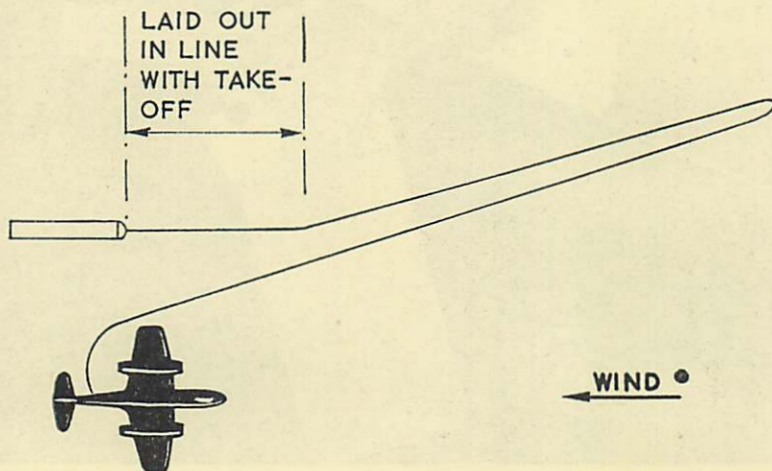

Fig. 6. Aircraft, Cable, and Target Layout for Normal Snatch Take-Off
23. **Normal Snatch Take-Off.** This is the normal method used for towing-off banner and sleeve targets (Fig. 6). It has the following advantages over the drag take-off :-